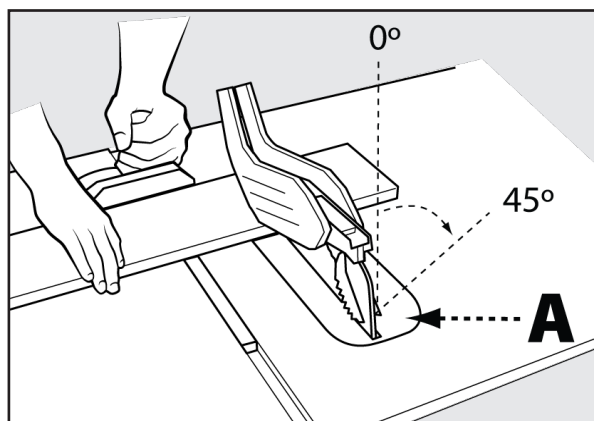

FIGURE 31
Bevel crosscutting is the same as crosscutting except the bevel angle (A) is set to an angle other than 90°. When making a bevel crosscut, place the miter gauge in the right miter slot so that the blade is tilted away from the gauge and hands. See Figure 31.